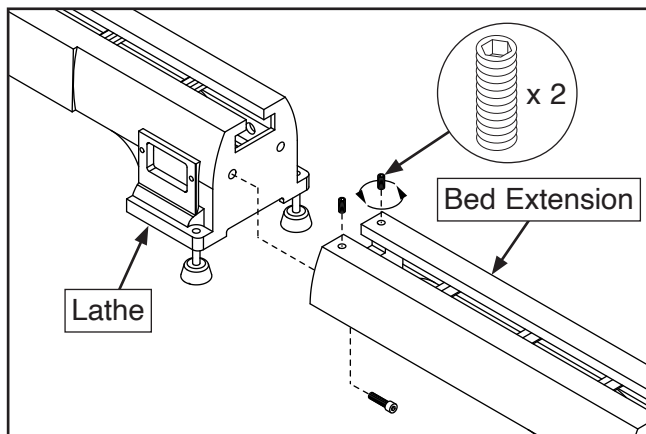

Figure 4. Lowering bed extension.
- If bed extension sits *above* surface of lathe bed, rotate set screws counterclockwise to lower bed extension until edge of bed extension is flush with lathe bed (see **Figure 4**), then adjust bed extension feet to level bed surface.